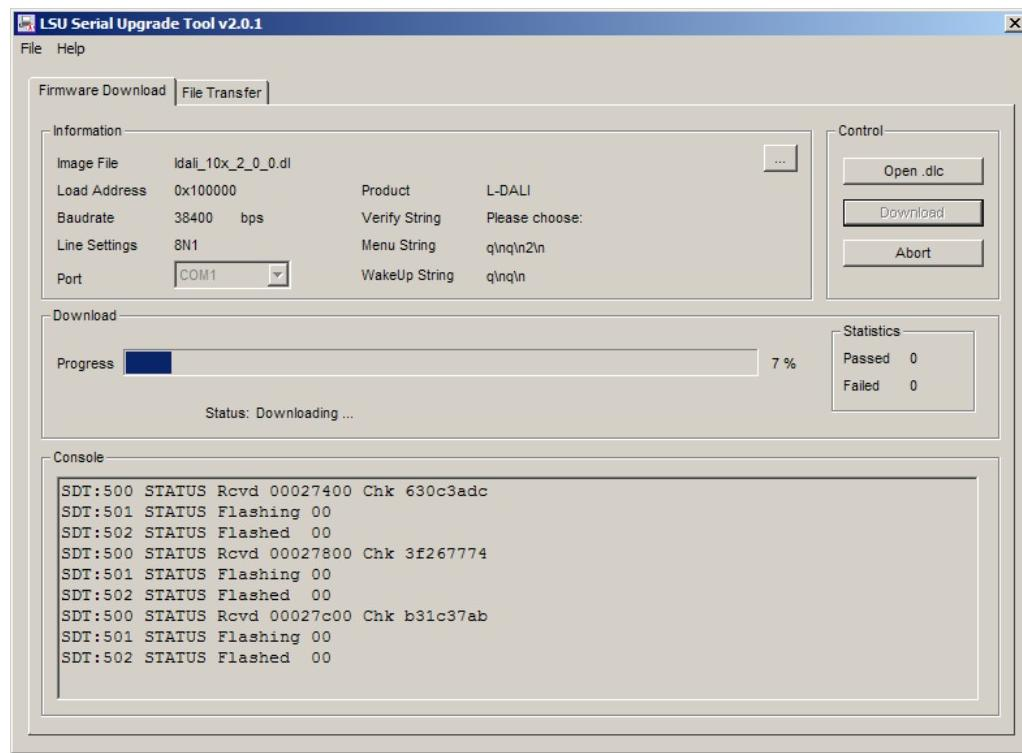

Figure 166: Progress Bar during Firmware Download.
2. If the L-DALI is not connected to COM1 you can change the port to COM2, COM3, or COM4. Make sure that the product shown under "Product" matches the device you are upgrading. Press **Download** to start the download. A progress bar as shown in Figure 166 can be seen.